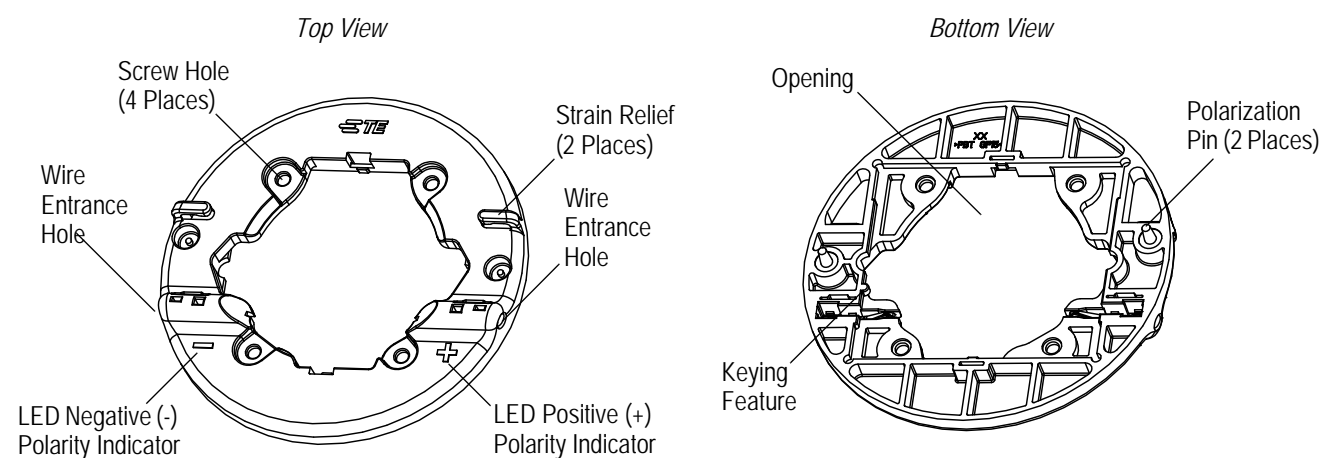

Figure 1
When corresponding with personnel, use the terminology provided in this specification to facilitate your inquiries for information. Basic terms and features of this product are provided in Figure 1.
- Added socket features to Section 1 and Figure 1 and chemical list to Paragraph 3.2,B
- Changed illustrations in Figures 1, 4, and 5, and re-arranged order of paragraphs in Section 3